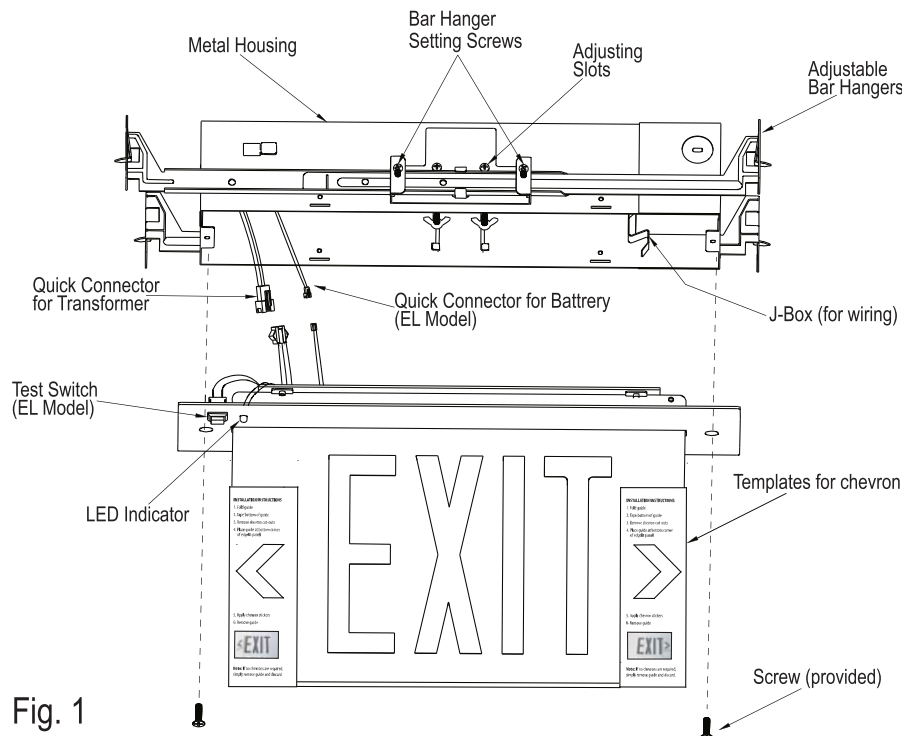

Fig. 1
1. See Figure 1 before beginning installation.
1. Pull the standard unit out of the box (Fig.1).